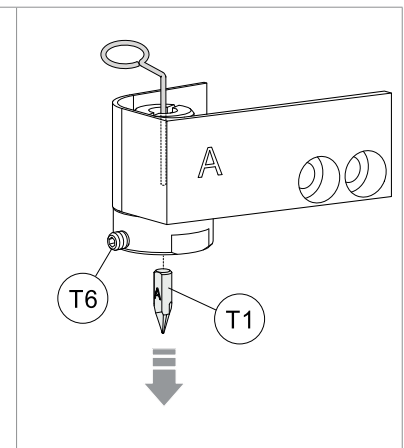

Fig. 152
- 9) Remove the cutter (T1) (Fig. 152). To facilitate the operation, insert a pin (provided) into the corresponding hole.